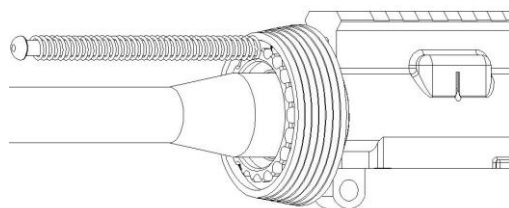

Fig. 3 – Op-Rod & Spring Installation
- Step 8** – Lace the Op-Rod Return Spring onto the Op-Rod and insert it through the front of the Delta Ring and into the upper receiver, as shown in Fig. 3.